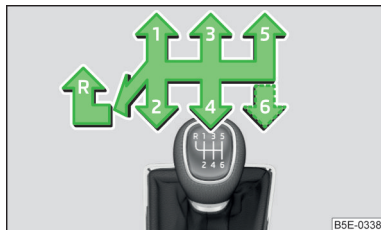

Fig. 130
On the shift lever, the individual gear positions are shown » Fig. 130.
- Move the shift lever fully to the left and then forward into **R** position » Fig. 130.